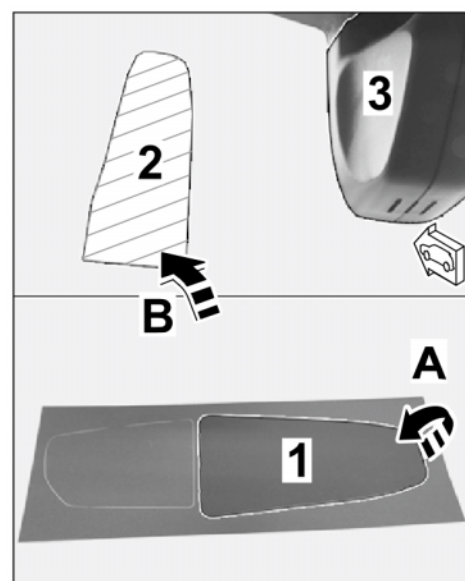

Figure 6
2.2.1 Pull 3M privacy film off the backing sheet (⇒ *Figure 6 -A-*).
2.2.2 Position 3M privacy film on the marked bonding surface on the windshield (⇒ *Figure 6 -B-*).
- 2.2.4 Pull protective film off the front camera retainer plate (⇒ *Figure 6-A-*).